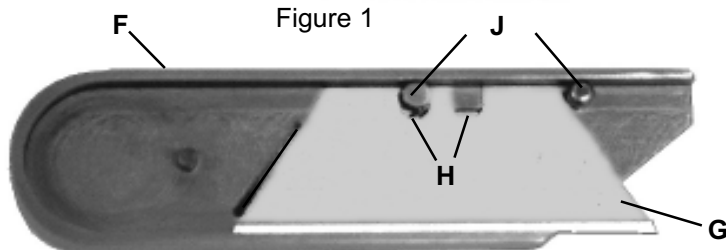
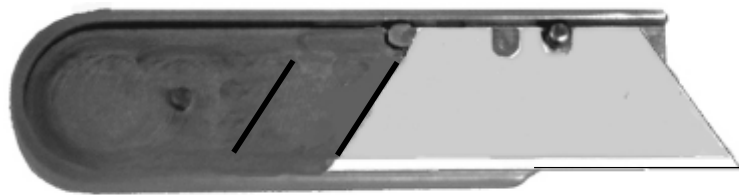
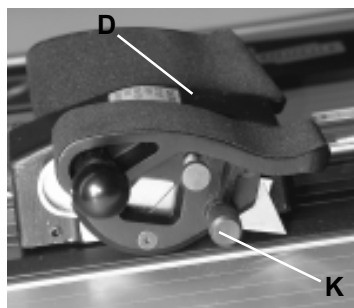

Figure 2
Figure 2a
Figure 4
2. Straight cutting (sizing) is done on the right side of the **Cutting Head (D)**. The **Magazine (F)** and **Utility Blade (G)**, (05-004), are shown in Figure 2. There are 4 possible depth positions for this blade, but only two are used as seen in Figures 2 and 2a. Figure 2a is the position for nominal 1/2" (12mm) material, while Figure 2 is for 2, 4, 6, and 8 ply mat board. The blade is held in place by a magnet. Insert the **Magazine (F)** to a stop in the **Cutting Head (D)** and tighten its **Locking Knob (K)**. See Figure 4.